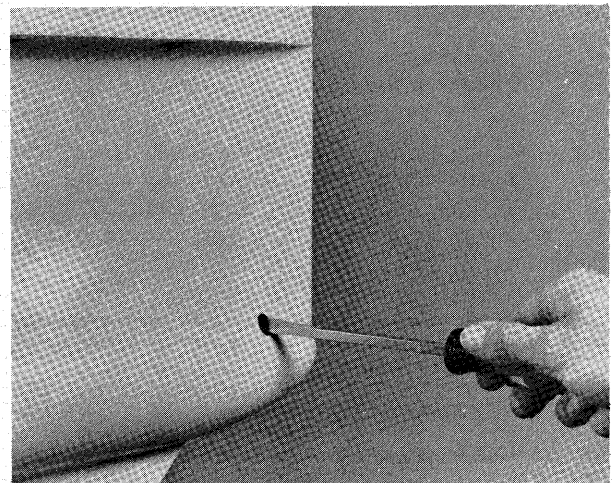

Figure 21—Removing Shift Arm Pin
- Remove gear shift arm pin from gear housing as shown in figure 21.